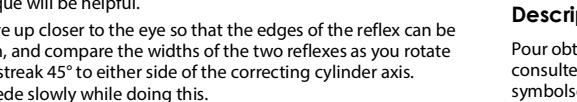

Figure 11
2. Remove lamp: Lift out with nail file, letter opener, or similar instrument under base flange (Figure 11).